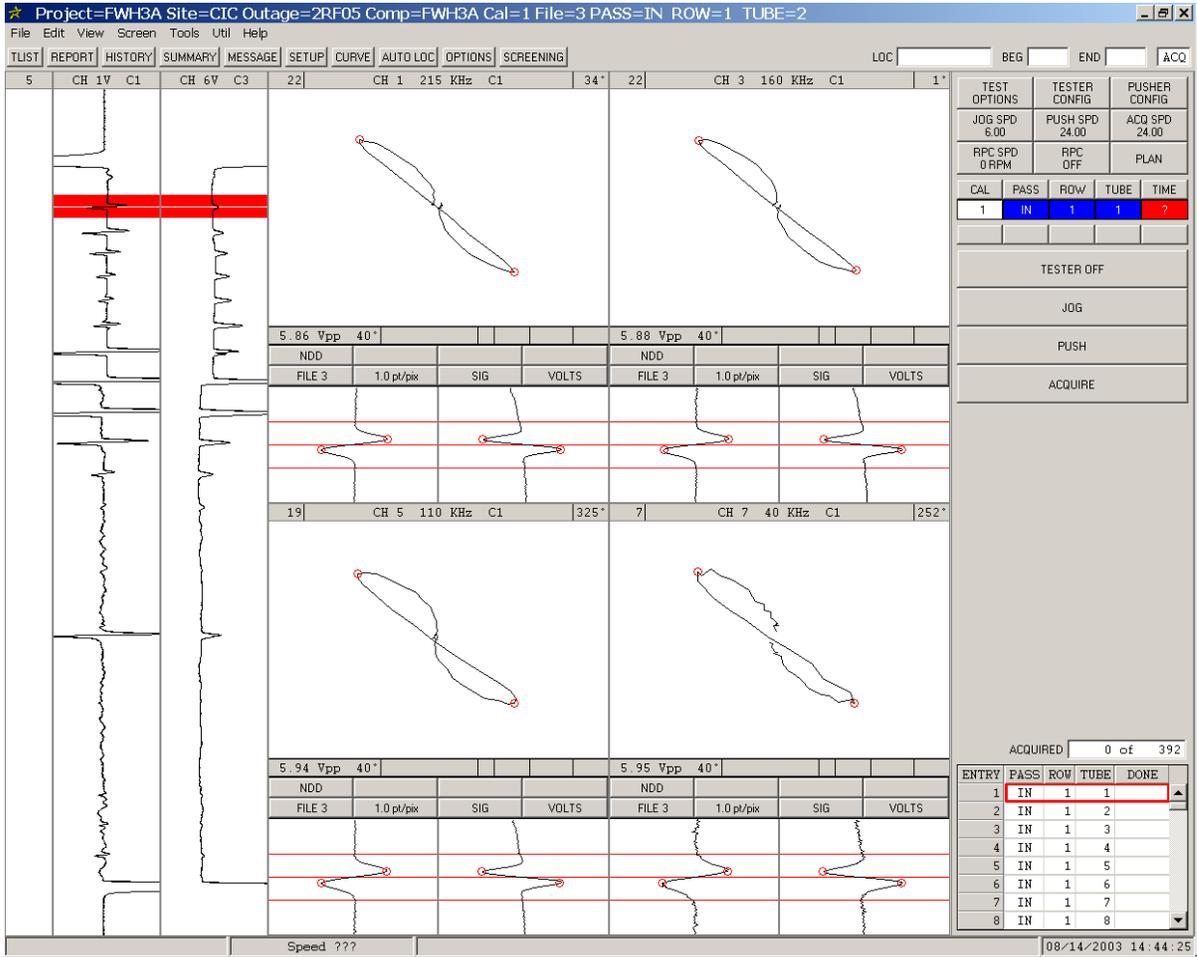

Figure 10-13. Acquisition Screen - Differential Channel Setup
STEP 12: Repeat the 2 steps above until the *100% TWH* signal measures a phase angle of 40° for channels 1, 3, 5, and 7 (*all differential channels*) as shown in Figure 10-13 below.